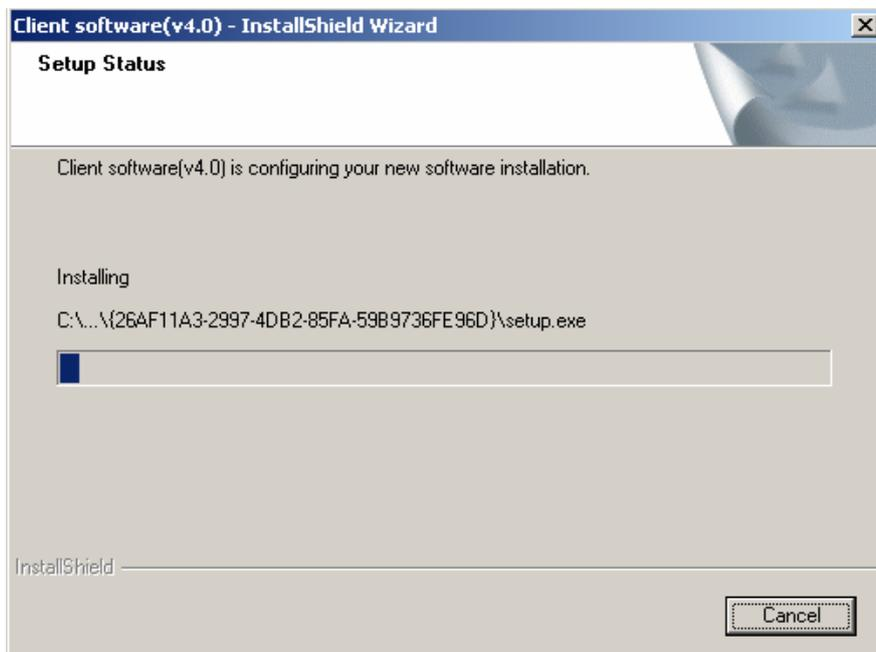

Fig2.6.6 Install Process
Step5: Click "Install" to start installation shown as Fig2.6.6.